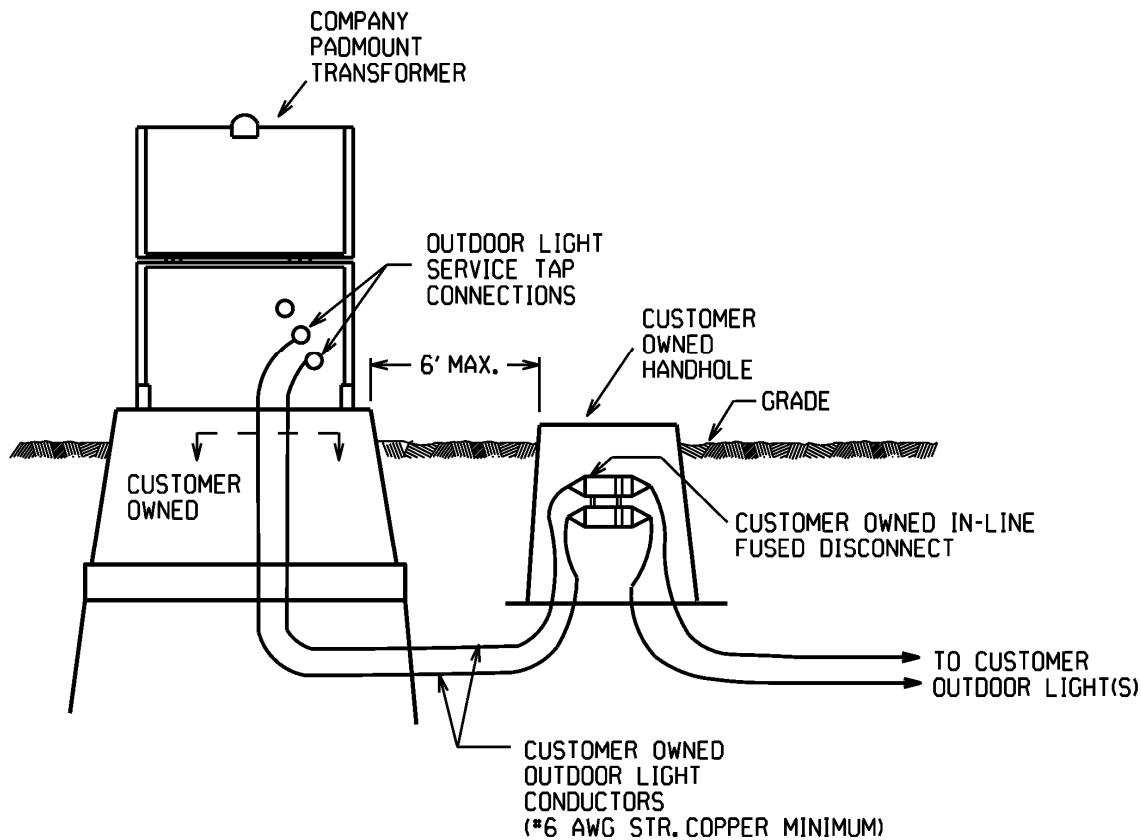

Figure 8 – Connection of Underground Supplied Street Light to National Grid Padmount Transformer
1. Install customer owned handhole as shown in Figure 8. Customer owned handhole shall house the in-line fused disconnect. See page 14 for details on the in-line fused disconnect.